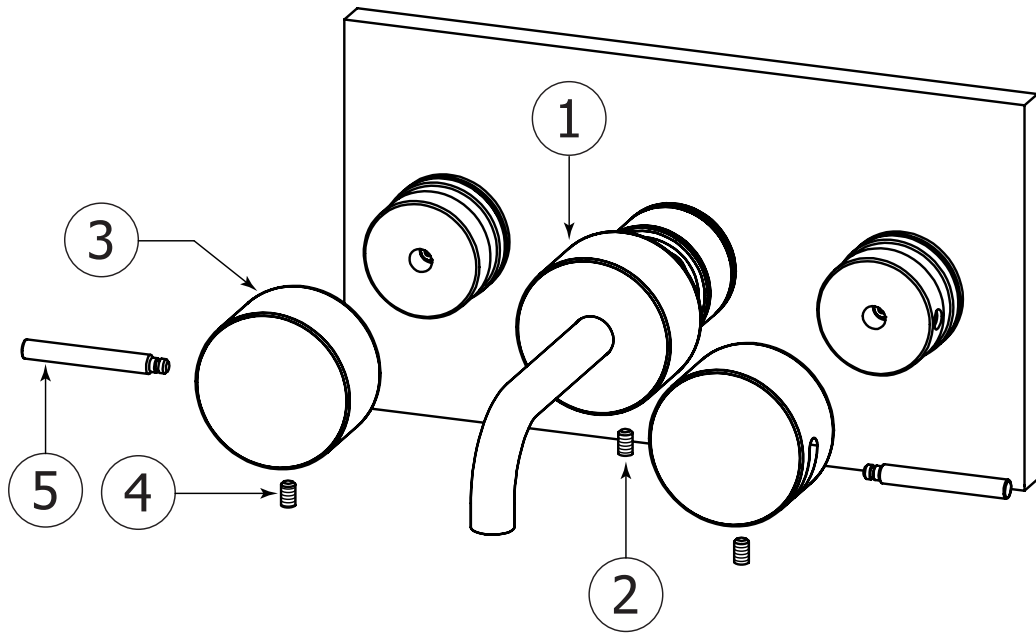

Fig. 7
- Fig. 7:** Place the marble covering on the handles and spout, in a softly way and paying the maximum attention. Once the threaded hole correspond to the cover hole, insert the grub screw.